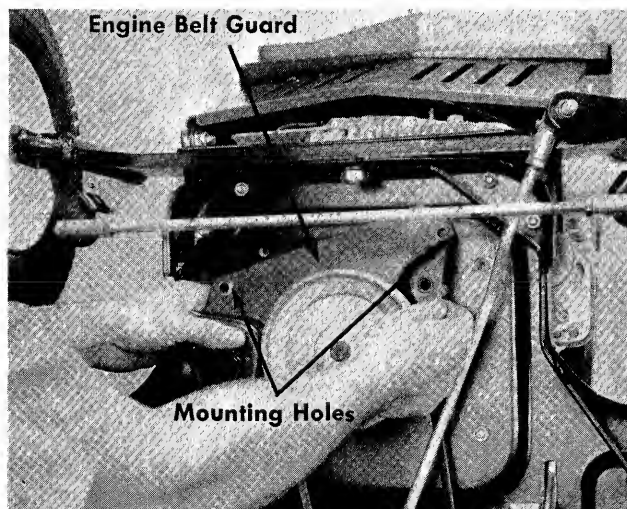

FIGURE 35. BELT GUARD REMOVAL
- Step 8. Remove the engine belt guard by removing the two front engine mounting bolts. See figure 35.
- Remove the entire belt guard from the engine pulley by removing the two front engine bolts. See figure 35.